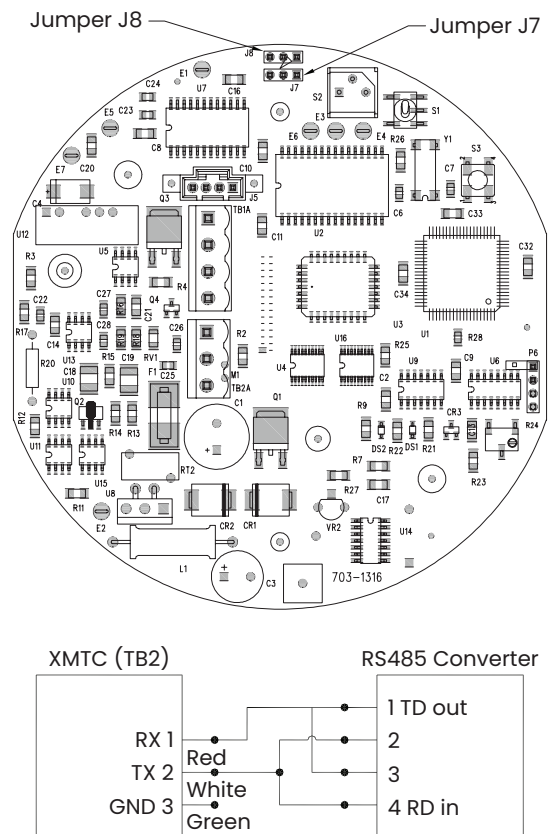

Figure 8: Jumper locations and RS485 connections
- a. Locate the jumpers J7 and J8 on the main PCB, using *Figure 8* below as a guide. Move the jumpers from the left (RS232) side to the right (RS485) side.
- b. Connect the other end of the cable to the RS485 converter, as shown in *Figure 8* below.